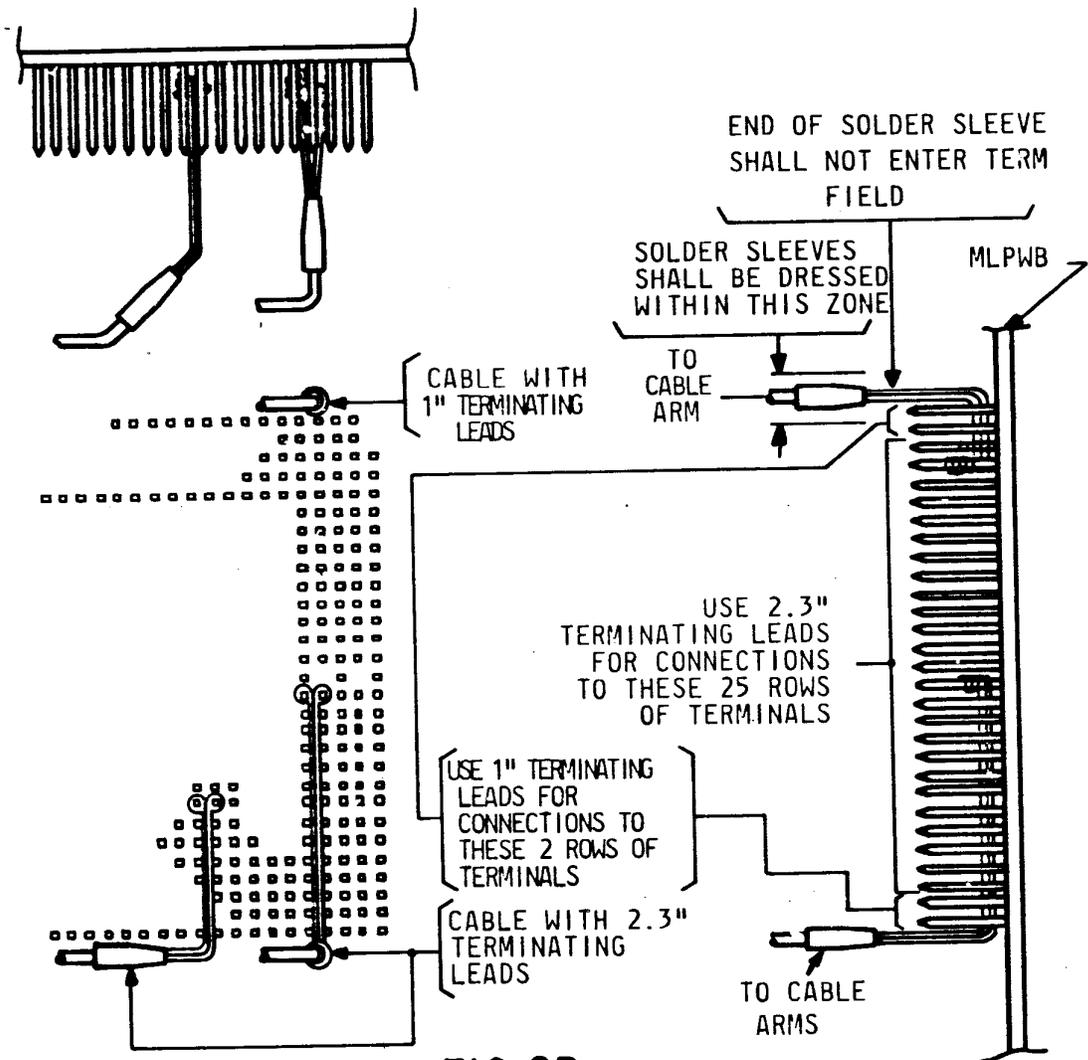

FIG. 2B
- 2.45 WHERE 75 & 100 OHM COAX AND/OR 28 AWG SINGLE OR PAIRED SHIELDED CONDUCTOR CABLES ARE IN CABLE ARMS, THE WIRE DRESS TO THE BACKPLANE TERMINAL FIELD SHALL BE AS SHOWN IN FIG. 2B.